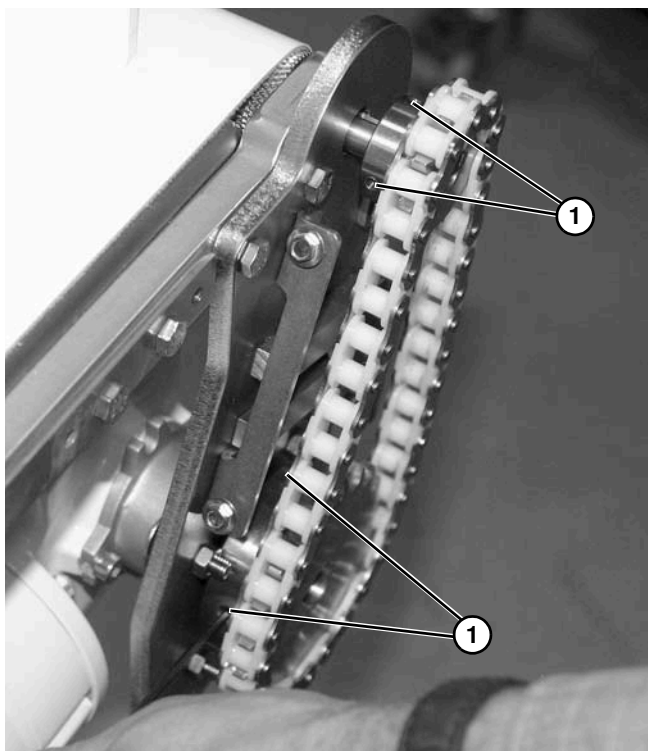

Figure 59
5. Loosen four set screws (**Figure 59, item 1**).